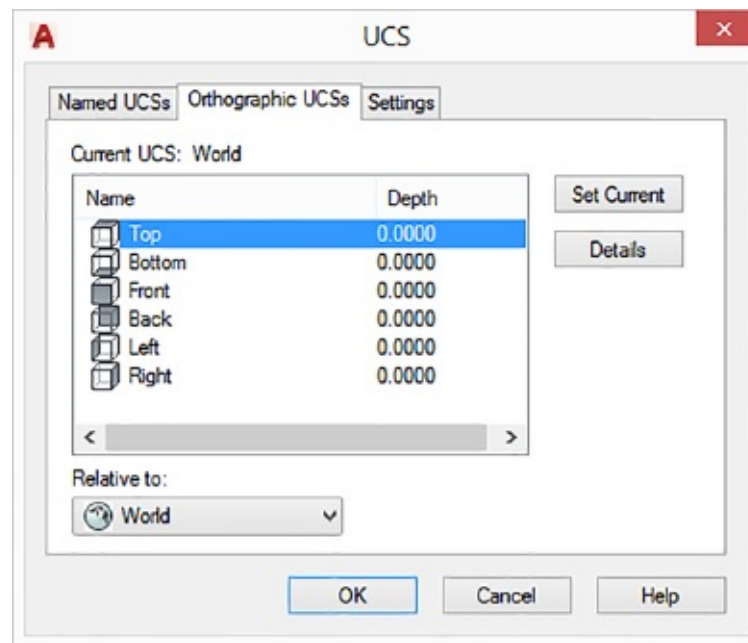
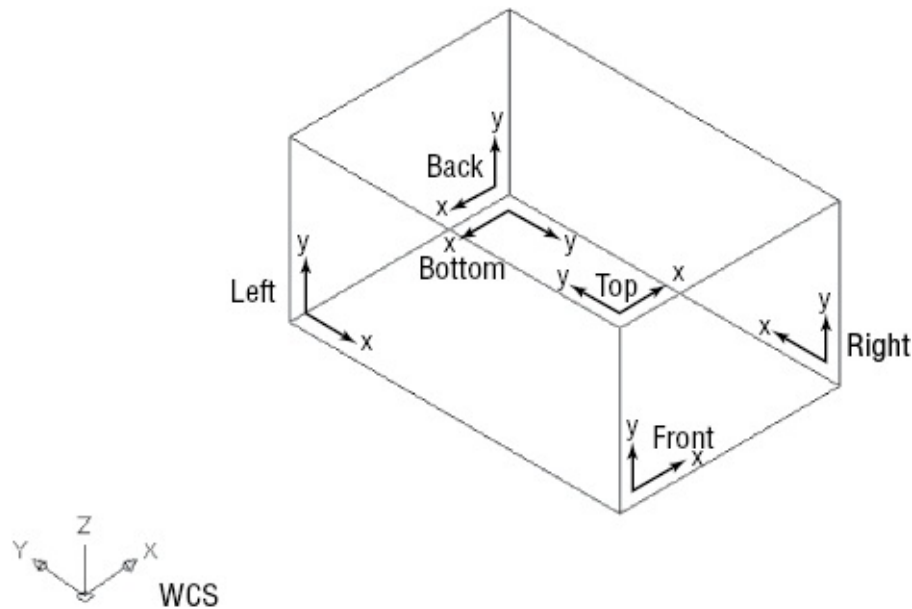

FIGURE 21.5 The UCS dialog box
FIGURE 21.6 The six predefined UCS orientations
3. Select Front in the list box, shown in Figure 21.5. Figure 21.6 shows the orientation of the Front UCS.
The Orthographic UCSs tab offers a set of predefined UCSs for each of the six standard orthographic projection planes. Figure 21.6 shows these UCSs in relation to the WCS.